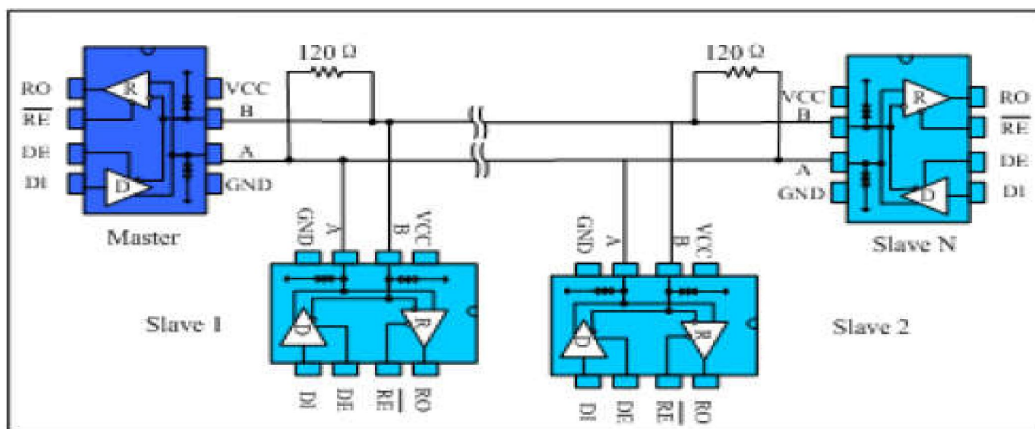

Fig. 9 Bus-type RS485 half-duplex communication network
4.1 Bus networking: The MAX483ECSA-TD RS485 transceiver is designed for bidirectional data communication on multi-point bus transmission lines. Figure 9 shows a typical network application circuit. These devices can also be used